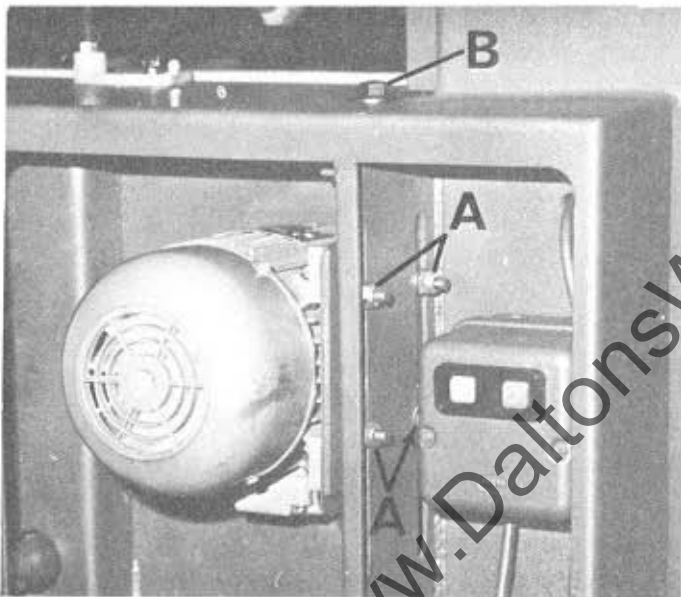

FIG 18
5. Loosen 4-M10 aerotight nuts "A", Fig.18, then turn M12 adjusting screw "B" anti-clockwise, releasing belt tension on pulleys.
2. Loosen 4-M10 aerotight nuts "A", Fig.18, then turn adjusting screw "B" clockwise until correct belt tension is achieved.